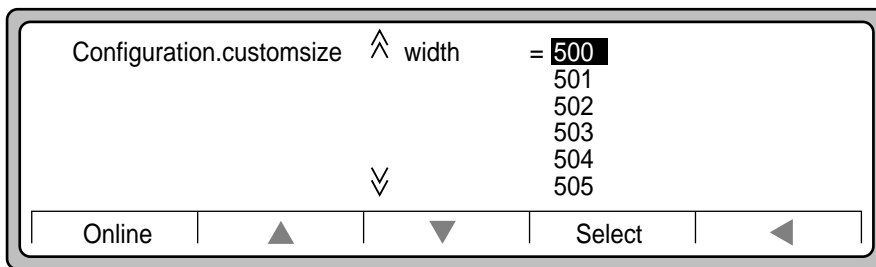

Figure 3-23 Width selection for custom paper size
15. Press **▲** or **▼** until your number is highlighted (our example is 500, as shown in Figure 3-23).